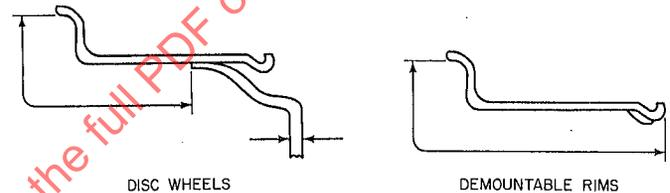

FIG. 1
3.2.1 **DUAL TYPE DISC WHEELS AND DEMOUNTABLE RIMS OF A SEMI-DROP CENTER AND FLAT BASE DESIGN**—Disc wheels shall be labeled on the weather side of rim, or both sides of the disc. Labeling shall be located on the weather side of demountable rims as shown in Fig. 1.